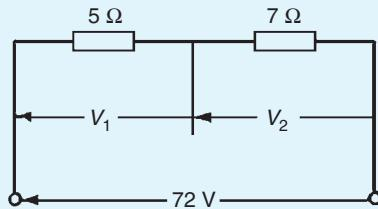

Figure 5.32
8. For the circuit shown in Fig. 5.32, find (a)  $V_1$ , (b)  $V_2$ , without calculating the current flowing.